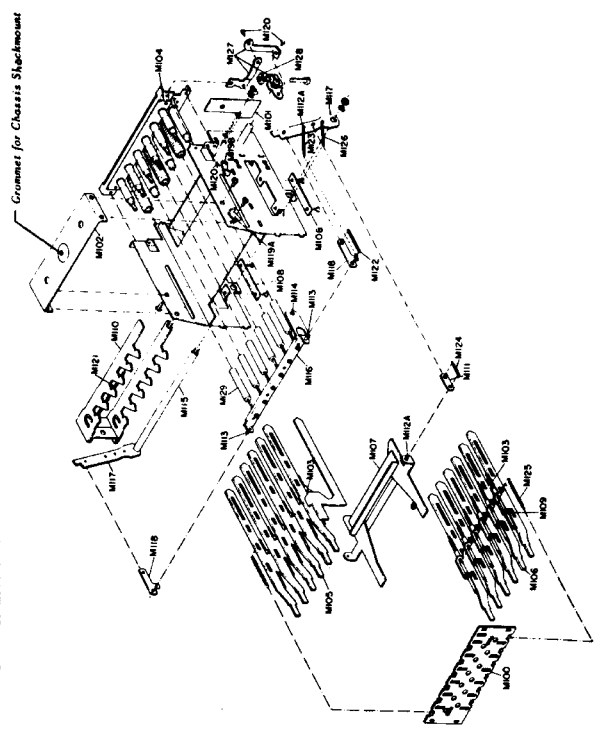

FIG. 5 - TV TUNER
1. Remove latch bar spring M121. See Figure 5 of Preliminary Service Manual.